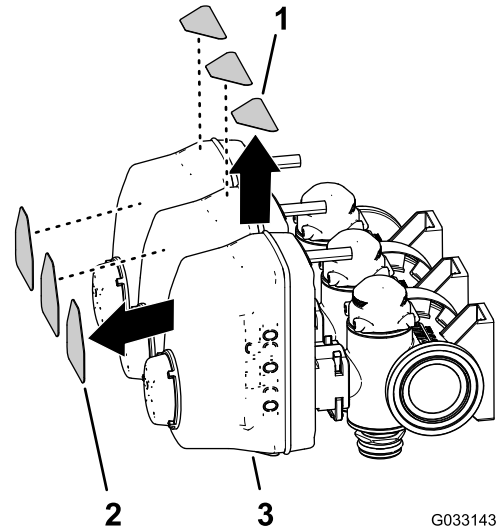

Figure 61
- Remove the 3 boom valve decals and the 3 bypass adjustment decals (Figure 61).